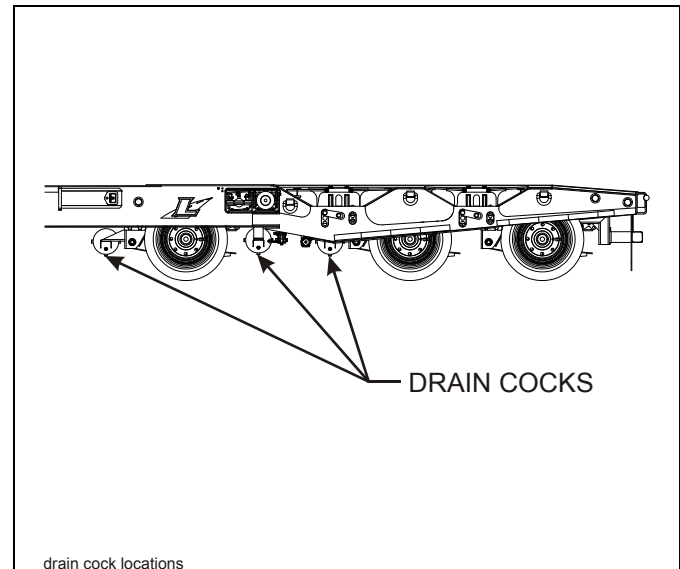

Figure 4-9: Drain Cock Locations
4. Drain air reservoir daily. A drain cock on the bottom of each air reservoir vents the tank to drain collected water and oil. If held open, air pressure in the tanks is relieved, causing the emergency or parking brakes to be applied (**See Figure 4-9.**)
2. Drain the semitrailer air system of all air and moisture (See Figure 4-9.)